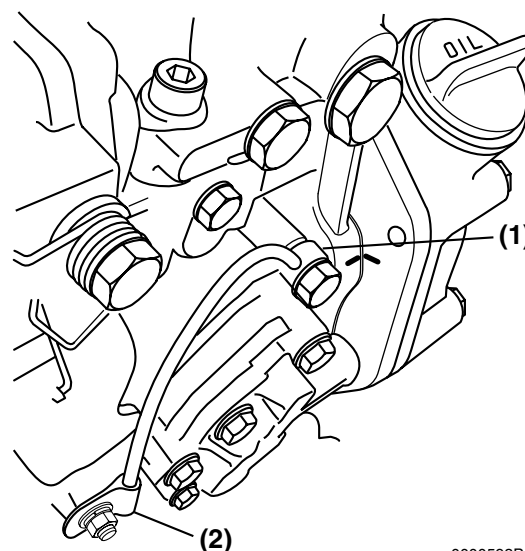

Figure 7-29
7. Reconnect the throttle linkage and the stop solenoid connector (**Figure 7-29, (2)**).
8. Reconnect the lube oil line (**Figure 7-29, (1)**) and clamp (**Figure 7-29, (2)**).